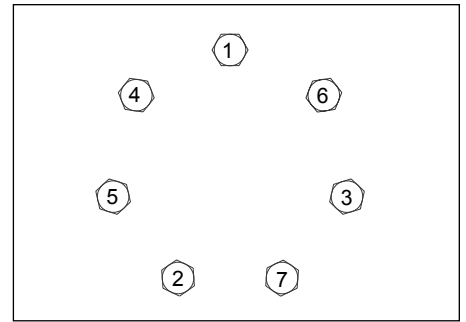

FIGURE 1
- E)** Install drive link (11) into end of shaft with tapered end facing up. Place rear housing seal (2) in groove in housing/hub (10). Place body seals (2) in grooves in both sides of rotor assembly (13). Place rotor assembly (13) onto housing/hub (10) with side of rotor assembly with chamfer in splines facing housing (10). Place manifold (14) over rotor assembly (13) with seal groove side up. Install manifold seal (3).
- F)** Install the commutator seal (4) into the commutator (15) with the metal side facing up. Use finger pressure to press the seal down flush with the surface of the commutator. Place the commutator container onto the manifold (14) and then place the commutator onto the protruding end of the drive link (11) making sure that the seal side faces up.
- G)** Install the remaining body seal (2) in the groove in the face of the endcover (18). Install piston spring (17) into endcover (18), then the white backup seal (6) followed by the O-ring seal (5). Lining up the alignment pin on the piston (16) with the hole in the endcover (18), press piston (16) into the endcover (18). While holding the piston (16) in the endcover, lower the endcover assembly onto the commutator assembly (15). Check to make sure that the endcover ports are in their original position.
- H)** Install the seven assembly bolts (19) and pre-torque to 13.6 Nm [10 ft. lb.]. Final torque all bolts to 69.8 ± 7.5 Nm [51.5 ± 5.5 ft. lb.] using the bolt torque sequence shown in Figure 1.